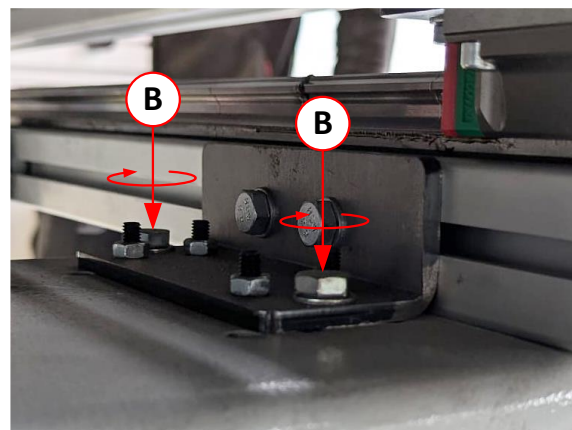
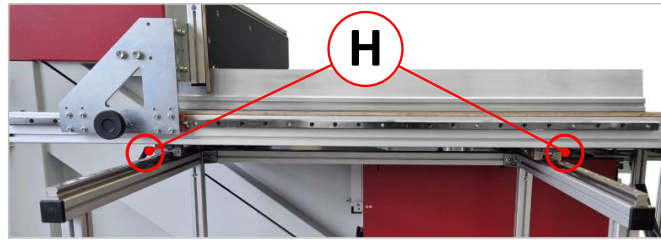

Figure 8: Hand-tighten the mounting screws (B)
Figure 10: Clamping lever (H) for left sliding table
Mounting on the machine stand is done using the two holes (L) in the two mounting brackets (W), which are already bolted to the profiles of the left sliding table. Use the M8 hexagon bolts provided (see ⇨ Figure 8).
<ul style="list-style-type: none"> <li>• The four hexagon head screws (B) in the two mounting brackets (see ⇒ Figure 8 ) must only be hand-fitted and not tightened.</li> <li>• Both clamping levers (H) under the left-hand sliding table (see ⇒ Figure 10) must be open.</li> <li>• The saw blade guard must be in the uppermost position.</li> <li>• A bandsaw blade must be installed and correctly tensioned.</li> </ul>
6. As soon as the left sliding table has been aligned completely correctly, it can be finally fixed. This is done by tightening the (previously only hand-tightened) hexagon head screws (**2**) on the mounting brackets (shown in ⇒ Figure 8) with an open-end spanner size 13.